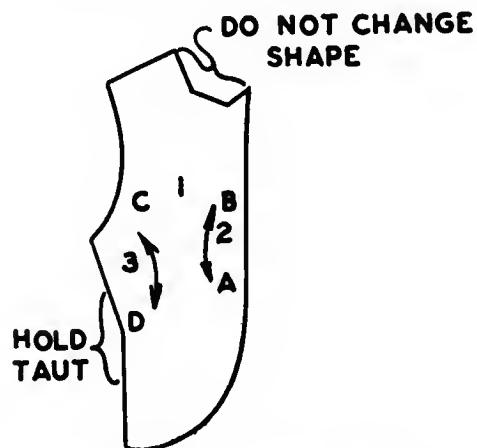

Fig. 153. Shaping for the bust.
- C. Place the highest point I of the bust over the curved edge of the cheese block (Fig. 153). You will observe
- D. Turn the garment over so that I is again over the curved edge of the cheese block and the fullness at 3 is on the cheese board. Shrink out this fullness (C to D, Fig. 153).